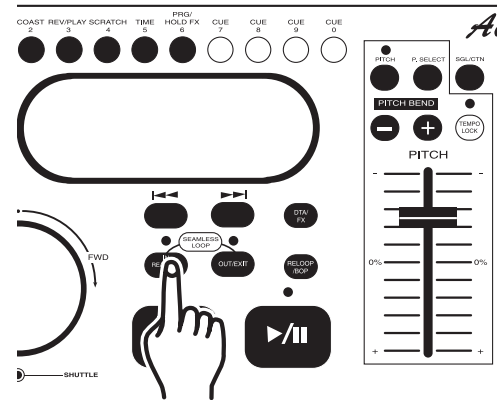

Figure 18
A cue point is the exact point playback will begin when the *PLAY/PAUSE BUTTON* (29) is pressed. A cue point may be anywhere on a disc or in a track. You may set and store up to five independent cue points per disk. Four cue points are stored in the *CUE MEMORY BUTTONS* (6) and one in the *IN REAL-TIME CUE BUTTON* (26). Once a cue point is set it may be recalled at any time during normal playback. Figures 18 and 19 will detail the procedures for setting your custom cue points. There are two ways to set a CUE point:
- 1) Press the *IN REAL-TIME CUE BUTTON* (26) on the fly (while a disc is playing). This will set a CUE Point without music interruption. Once this point is set, you may return to this point at any time by pressing either the *CUE BUTTON* (27) or the *RELOOP/BOP BUTTON* (30). Pressing the *CUE BUTTON* (27) will stop playback and return the disc in cue mode, pressing the *RELOOP/BOP BUTTON* (30) will return the disc to cue point without music interruption and continue playback from that point.